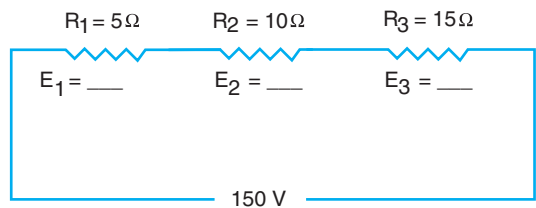

Figure 3-9 Series circuit.
- Solve for the unknown values in the circuit in Figure 3-9.